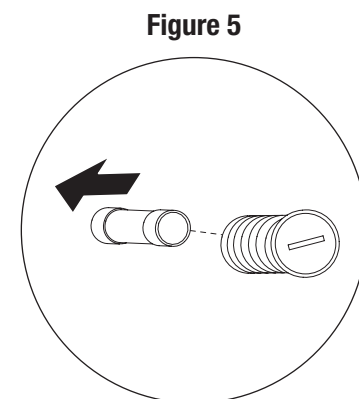

Figure 5
4. Carefully remove the old fuse, and replace with the new fuse. (Figure 5)